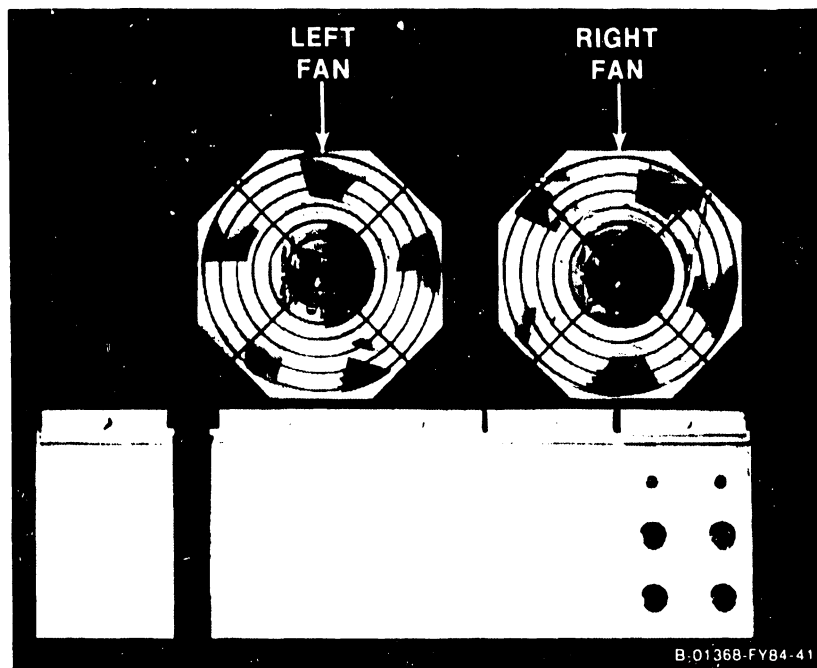

Figure 5-40. Rear View of Fan Panel Assembly
3. a. If the left fan, as seen from the rear, is to be replaced, remove only the four hex head screws securing the left fan screen and fan to the rear panel assembly. (Figure 5-40.)